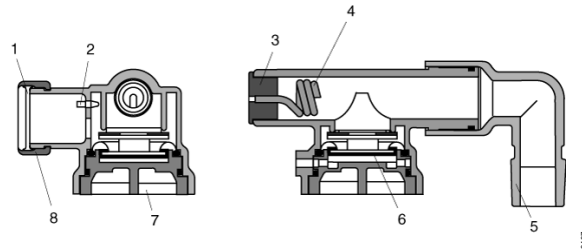

Fig. 16 Patient system, components
- Unscrew the diaphragm cover (Fig. 16/7) from the patient system and remove the diaphragm (Fig. 16/6).
- Screw the diaphragm cover (Fig. 16/7) onto the patient system.
- Seal off the expiratory socket (Fig. 16/5) with a rubber plug.
- Remove the "flow sensor connection" lip seal (Fig. 16/8) and seal off the connection with a rubber plug.
Legend to Fig. 16